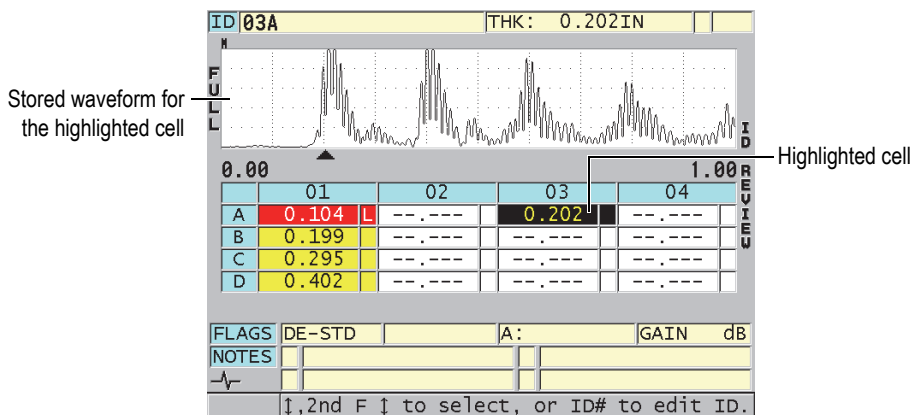

Figure 10-13 The highlighted DB grid cell in the ID review screen
3. In the ID review screen (see Figure 10-13 on page 171):